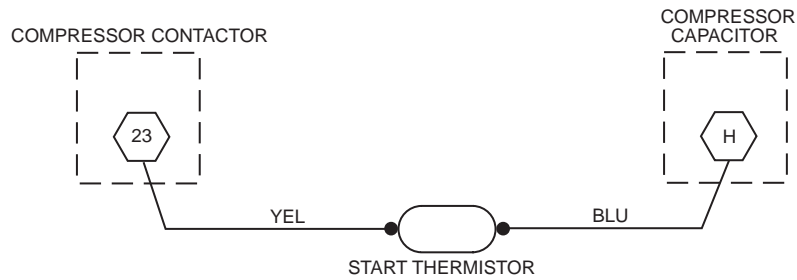

Fig. 2 — Typical Wiring
6. Connect the other end of the yellow wire from Step 4 to terminal 23 of the compressor contactor. See Fig. 2.
7. Connect the other end of the blue wire from Step 4 to terminal H of the compressor capacitor. See Fig. 2.